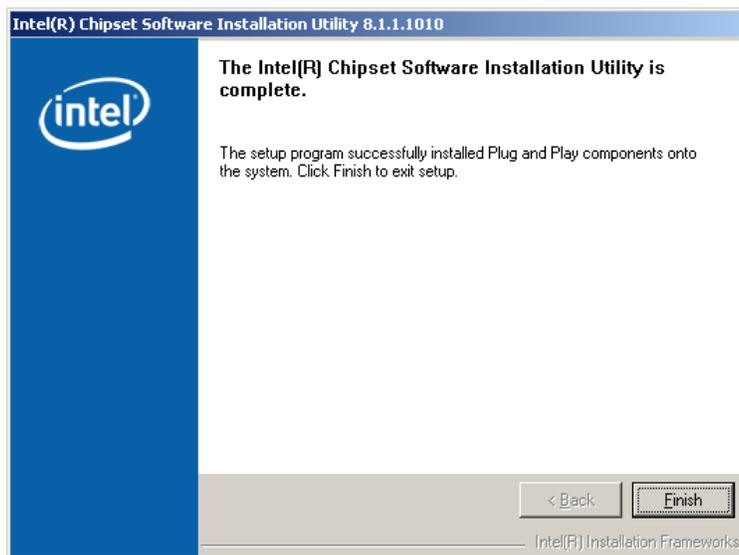

Figure 6-6: Chipset Driver Installation Complete
Step 10: After the driver installation process is complete, a confirmation screen appears (**Figure 6-6**).